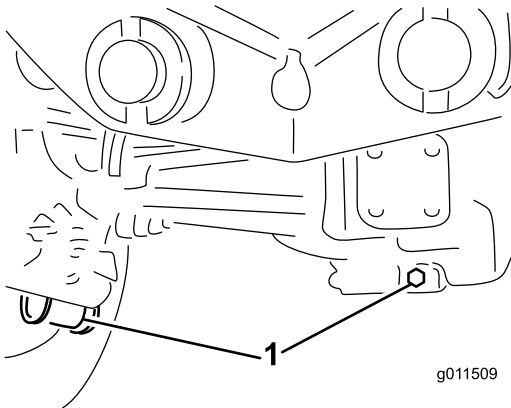

Figure 91
2. Clean the area around the 3 drain plugs; 1 on each end and 1 in the center (Figure 91).